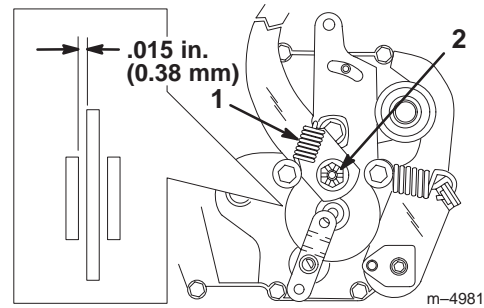

Figure 21
The parking brake is on the right side of the rear axle, inside the rear tire (Fig. 21). If the parking brake does not hold securely, adjust it.
- Remove the brake arm spring (Fig. 21).
- Remove the cotter pin that secures the brake adjusting nut and slightly loosen the nut (Fig. 21).
- Insert a 0.015 in. (0.38 mm) feeler gauge between the brake disc and brake puck (Fig. 21).